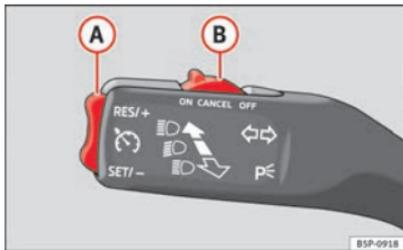

Fig. 148 Turn signal and main beam headlight lever: switch and rocker switch for the cruise control.
- Press the lower part **SET/-** of the rocker switch ⇒ Fig. 148 (A) once briefly when you have reached the speed you wish to set.
- Press the upper part **RES/+** of the rocker switch ⇒ Fig. 148 (A) to increase the speed. The vehicle will continue to accelerate as long as you keep the rocker switch pressed. When you release the switch, the new speed is stored.
- Press the lower part **SET/-** ⇒ Fig. 148 (A) of the rocker switch to reduce the speed. The vehicle will automatically reduce its speed for as long as you keep the switch pressed. When you release the switch, the new speed is stored.
Cruise control is switched off if you reduce speed by depressing the brake pedal. You can reactivate the control by pressing once on the upper part of the rocker switch **RES/+** ⇒ Fig. 148 (A).